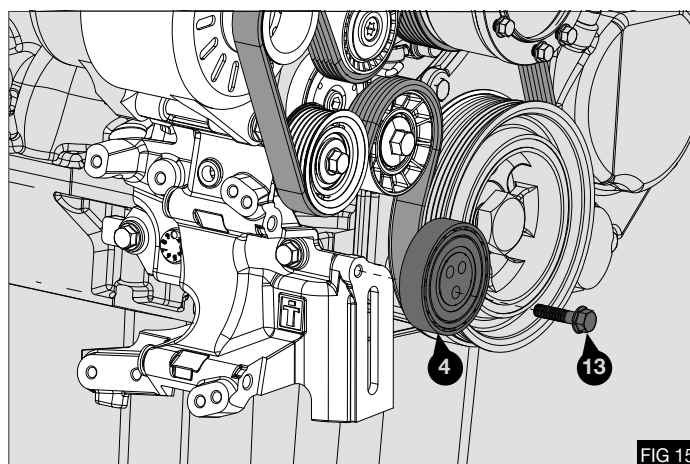

FIG 15
19. Install the eccentric tensioner pulley **(4)** using bolt **(13)** - Fig 15